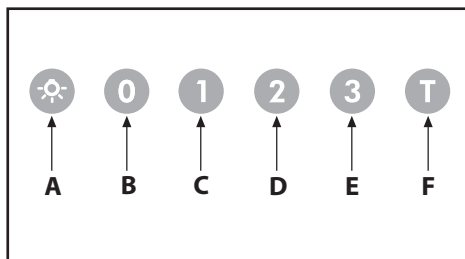

Fig.10
• **Commands (**Fig.10**) luminous** the key symbols are explained below: